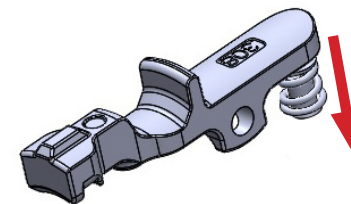

Fig. a-2
2. Separate the extractor spring assembly from the extractor by pulling it off the extractor. (Fig. a-2)